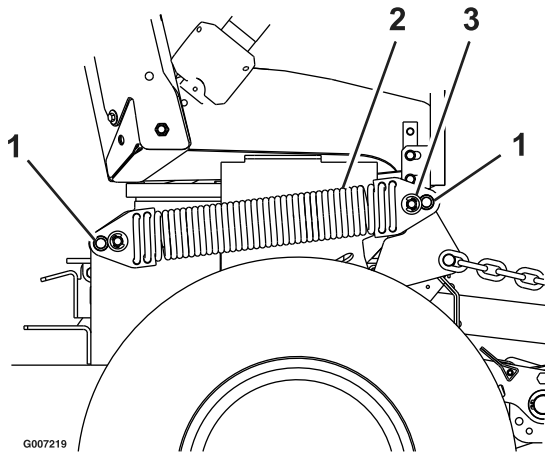

Figure 16
5. Remove the retaining ring and washer at either end of the weight transfer spring that retains it to the transfer bellcrank pins and/or weight transfer spring anchor pins (see Figure 16).